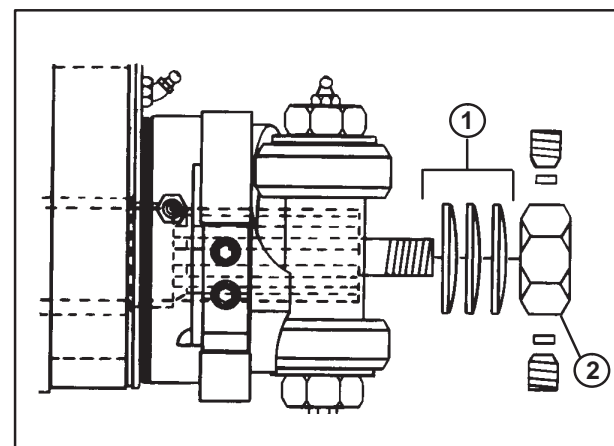

FIGURE 3
6. Install the three spring washers 1 (with convex side facing the adjusting nut) onto the shaft (Figure 3).